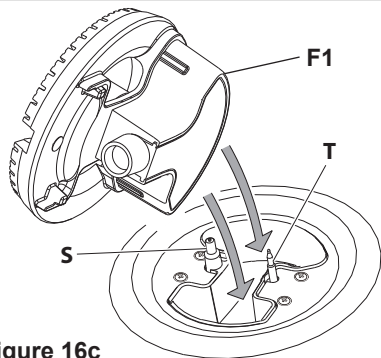

Figure 16c
It is very important to check that the burner flame spreader “F1”, “F2” or “F3” and the caps “A”, “B” have been correctly positioned (see figs. 16c, 16d, 16e, 16f, 16g). Failure to do so can cause serious problems.
- Fit the flame spreader to the housing: the burner ribs must be fitted in their housing as shown by the arrows (see figs. 16c, 16d or 16e).